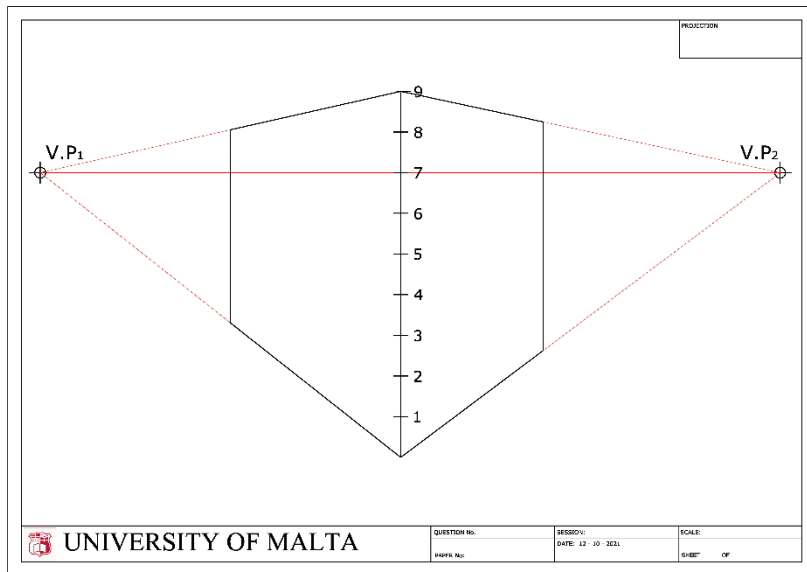

Figure 10c
- a) Use the dimensions given in the orthographic projection to construct an estimated two-point perspective of the library. The viewing direction required is indicated by the arrow in the plan. Use the suggested layout of the two-point perspective shown in the Figure 10c. (21)
- b) Render in colour your drawing to enhance its presentation. (3)